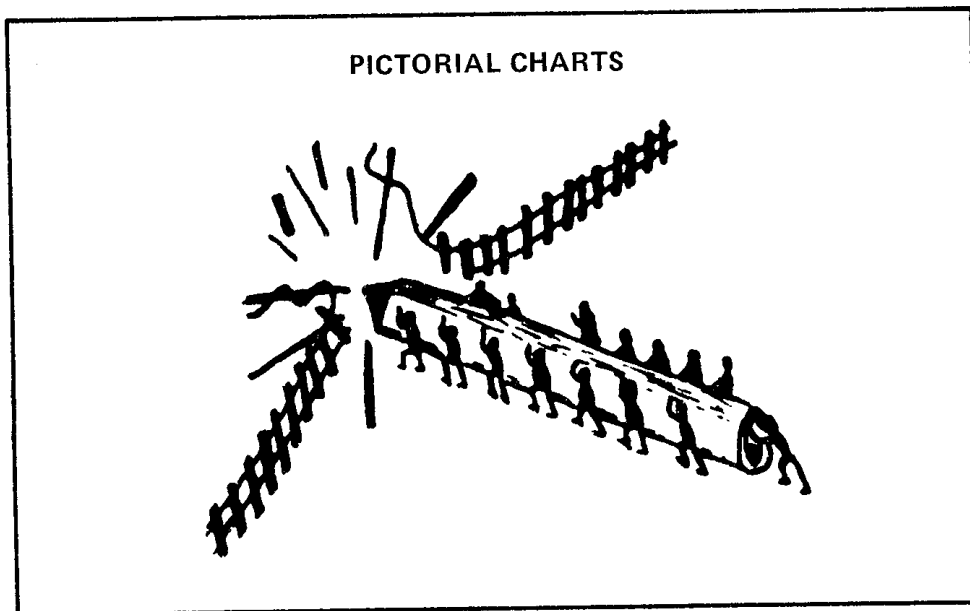

Figure 10-2 Pictorial Charts
(1) **Pictorial Charts** — In teaching some principle, or axiom, the pictorial chart can be used to give the student a symbolic picture which, at the same time, crystallizes the meaning of the point being taught and impresses it vividly upon his visual memory. (See Figure 10-2.)